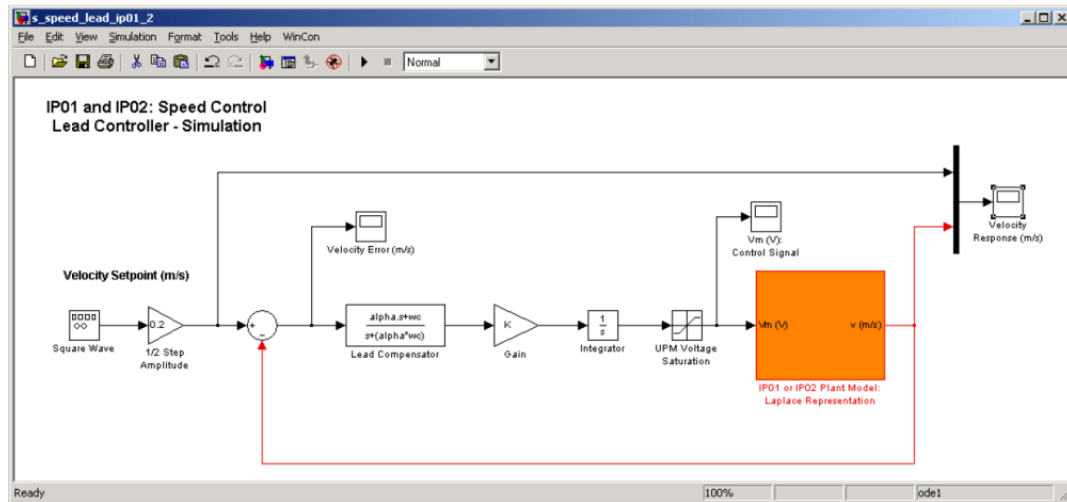
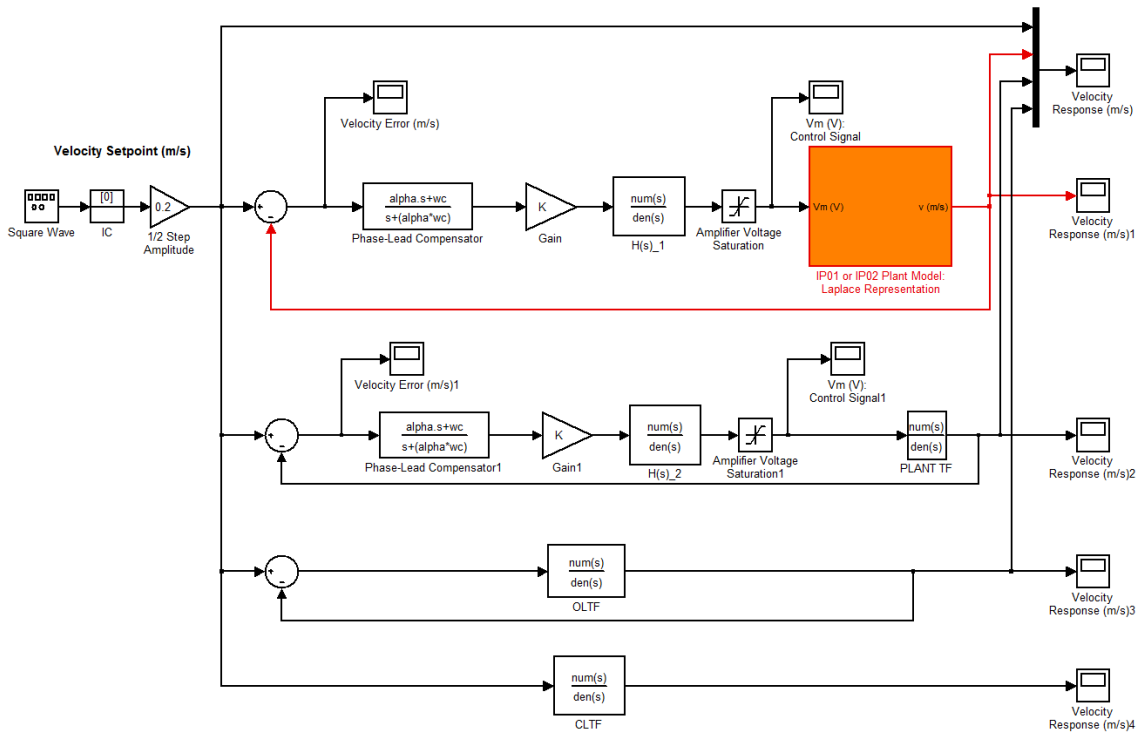
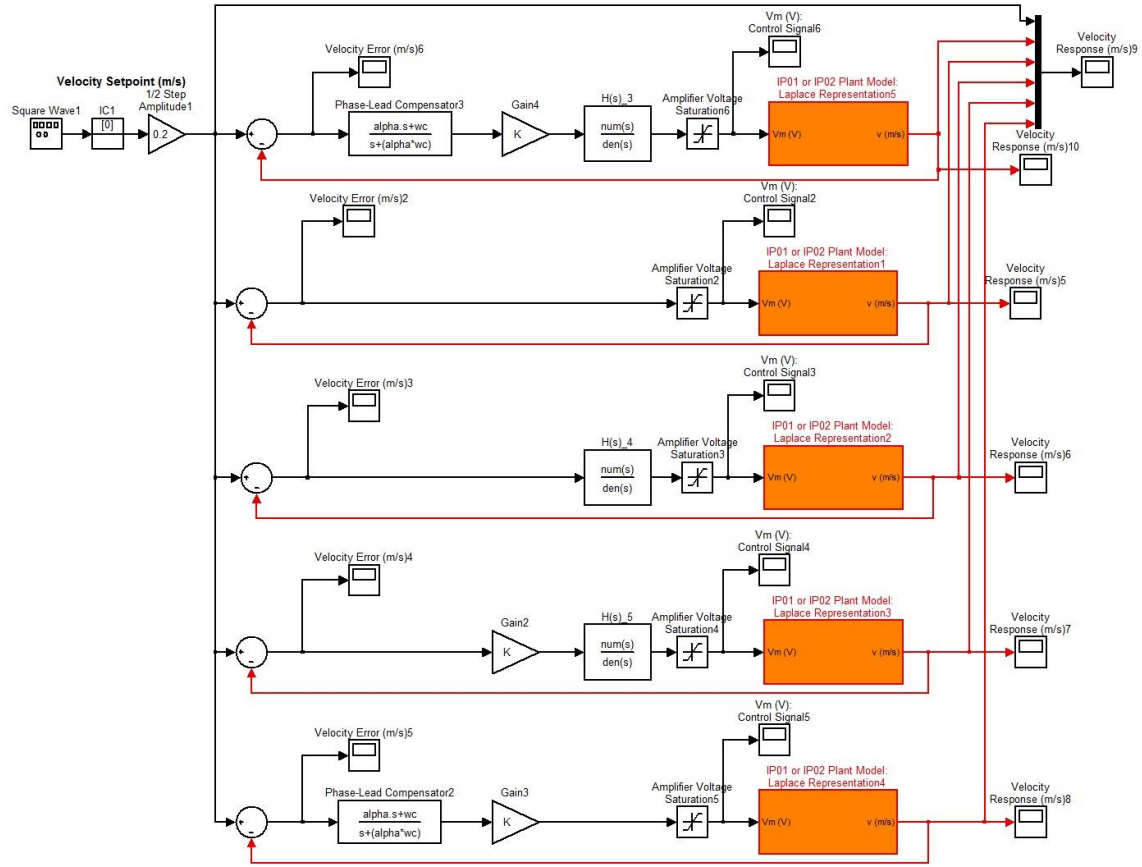

Fig. 6 – Simulink diagram used for the simulation of the phase-lead based speed control system
Fig. 7: Modeling the same system with different approaches.
Fig. 8: A Simulink model for observing phase-lead compensator design steps and effects of added blocks.
Step 6. In Simulink, open the model called *s\_speed\_lead\_ip01\_2.mdl*. This diagram should be similar to the one shown in Fig. 6. It includes a subsystem containing your IP01 or IP02 modeled plant, as well as the lead-based controller, i.e., the integrator, the gain, and the phase-lead compensator. Check that the signal generator block properties are properly set to output a square wave signal, of amplitude 1 and of frequency 1 Hz.
Step 8. Ensure that the Simulink simulation mode is set to *Normal*. Click on *Simulation / Start* from the Simulink menu bar and bring up the *Velocity Response (m/s)* scope. Observe the system's velocity response. You can also bring up the *Velocity Error (m/s)* as well as the *Vm (V): Control Signal* scopes. Does the system response react as how you had simulated in Step 5?
Step 9. Now, modify the simulation model shown in Figure 6 to observe different approaches for modeling a system. Final model should look like Figure 7. There should be 3 new control paths: i. Same loop with plant transfer function, ii. Open-loop transfer function with unity feedback, iii. Closed-loop transfer function. Run the simulation and comment on results. Comment on advantages and disadvantages of different modeling approaches.
Step 11. Now, start a new model. As a first control loop, you can copy and paste the model that is already given to you as illustrated in Figure 6. In this step, you will observe the time response effects of each phase-lead compensator design steps. Modify your model as seen in Figure 8. Sketch the simulation result for each control loop. Please don't forget to add appropriate titles, axis values and labels. Comment on results you observe. Note that you already observed their bode plots.